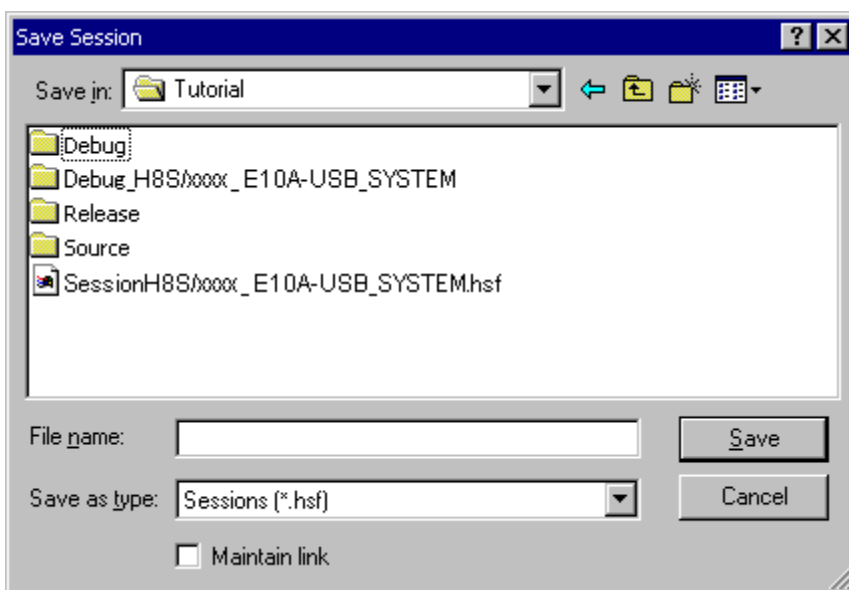

Figure 4.32 [Save Session] Dialog Box
3. Click the [Save as...] button to display the [Save Session] dialog box (figure 4.32).